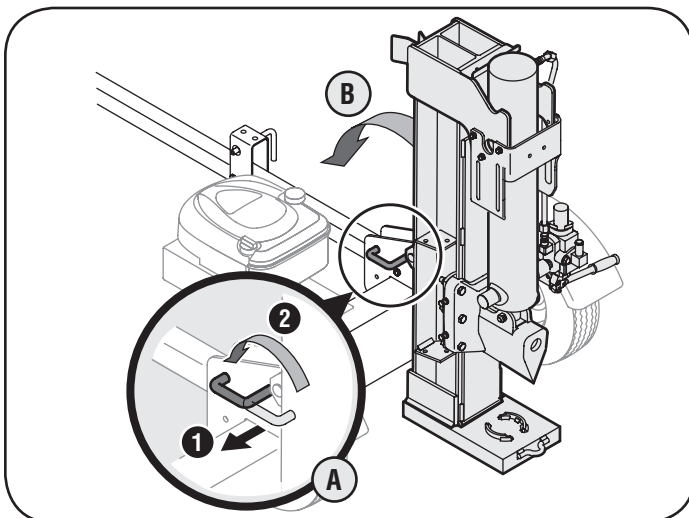

Figure 3-3
1. Pull out the vertical beam lock, rotate it back and pivot the beam to the horizontal position until it locks. See Figure 3-3.